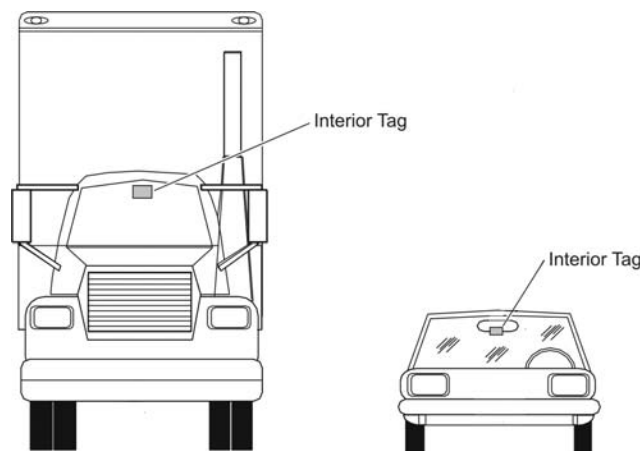

Figure 1. Optimum Locations for Tag Performance
1. Choose the location for your tag (Figure 1). The tag should be mounted approximately 1 inch (2.54 cm) below the rearview mirror post.